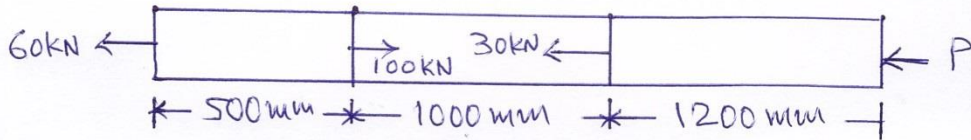

fig. 2
- (c) Calculate change in length of a bar as shown in fig.2 Cross sectional area is 1200 mm2 and take  $E = 2 \times 10^5 \text{ N/mm}^2$ . Find the value of force P also. **04**